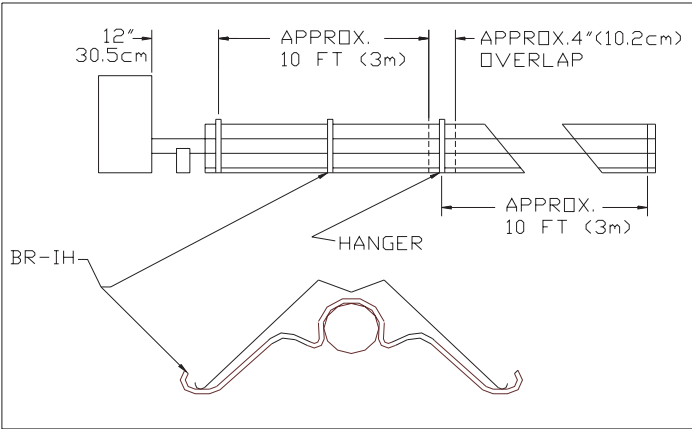

Figure 2.5.1
1. Install reflector intermittent support BR-IH as shown in figure 2.5.1